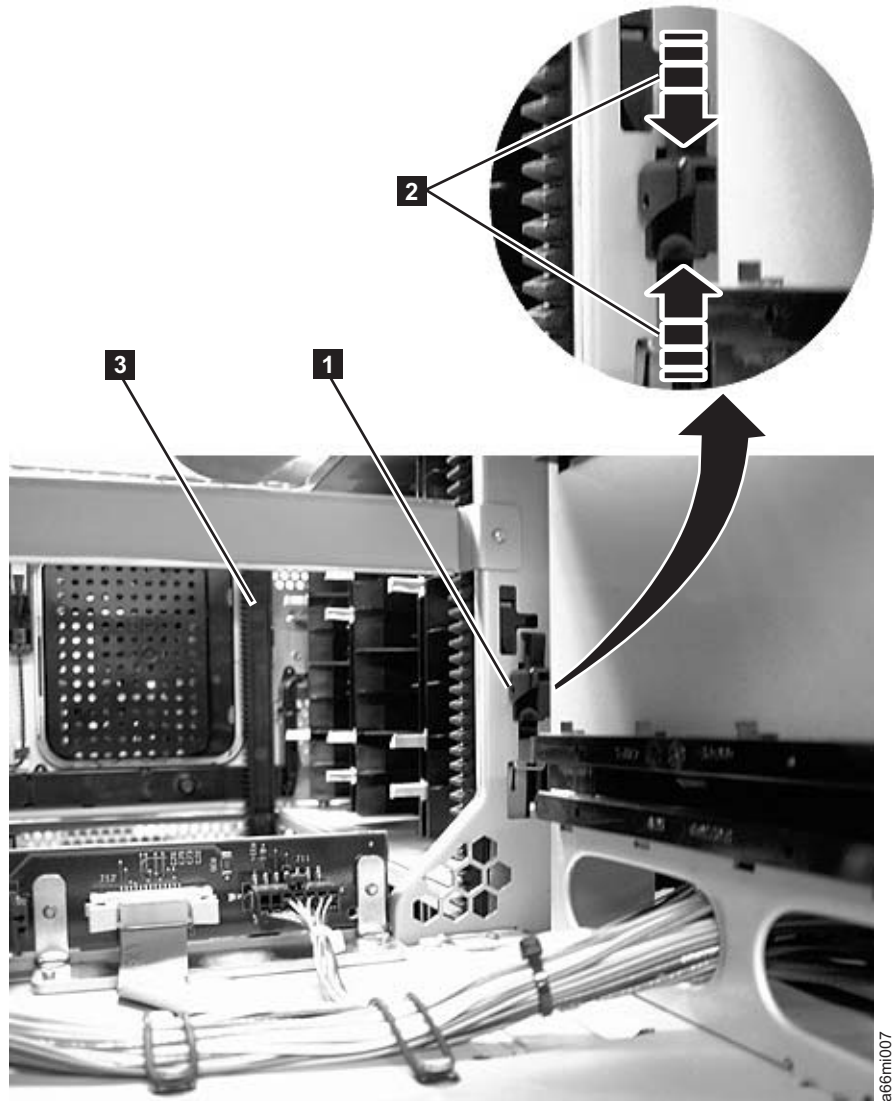

Figure 8-10. Gear rack
In order for the picker to move from one unit to the next in a multi-module library, the front (**3** in Figure 8-10) and rear (**1** in Figure 8-10) gear racks in the control module must be properly aligned with the gear racks in the expansion module.
Verify that the front (**3** in Figure 8-10) and rear (**1** in Figure 8-10) gear racks are properly aligned and positioned.
- In a control module, verify that the gear racks are in the down position. Pinch the gear rack locking mechanism (**2** in Figure 8-10 on page 8-16) and push the gear rack down. Ensure that the lock is not engaged in the hole in the frame.
- Verify that the gear racks are in the down position. Pinch the gear rack locking mechanism (**2** in Figure 8-10 on page 8-16) and push the gear rack down. Ensure that the lock is not engaged in the hole in the frame.
1. Slightly push up and pinch the gear rack locking mechanism (**1** in Figure 8-10 on page 8-16) to unlock the gear rack in the control module.
2. While pinching the gear rack locking mechanism (**2** in Figure 8-10 on page 8-16), push the gear rack down until it aligns with the gear rack in the expansion module, then release your hold on the locking mechanism.